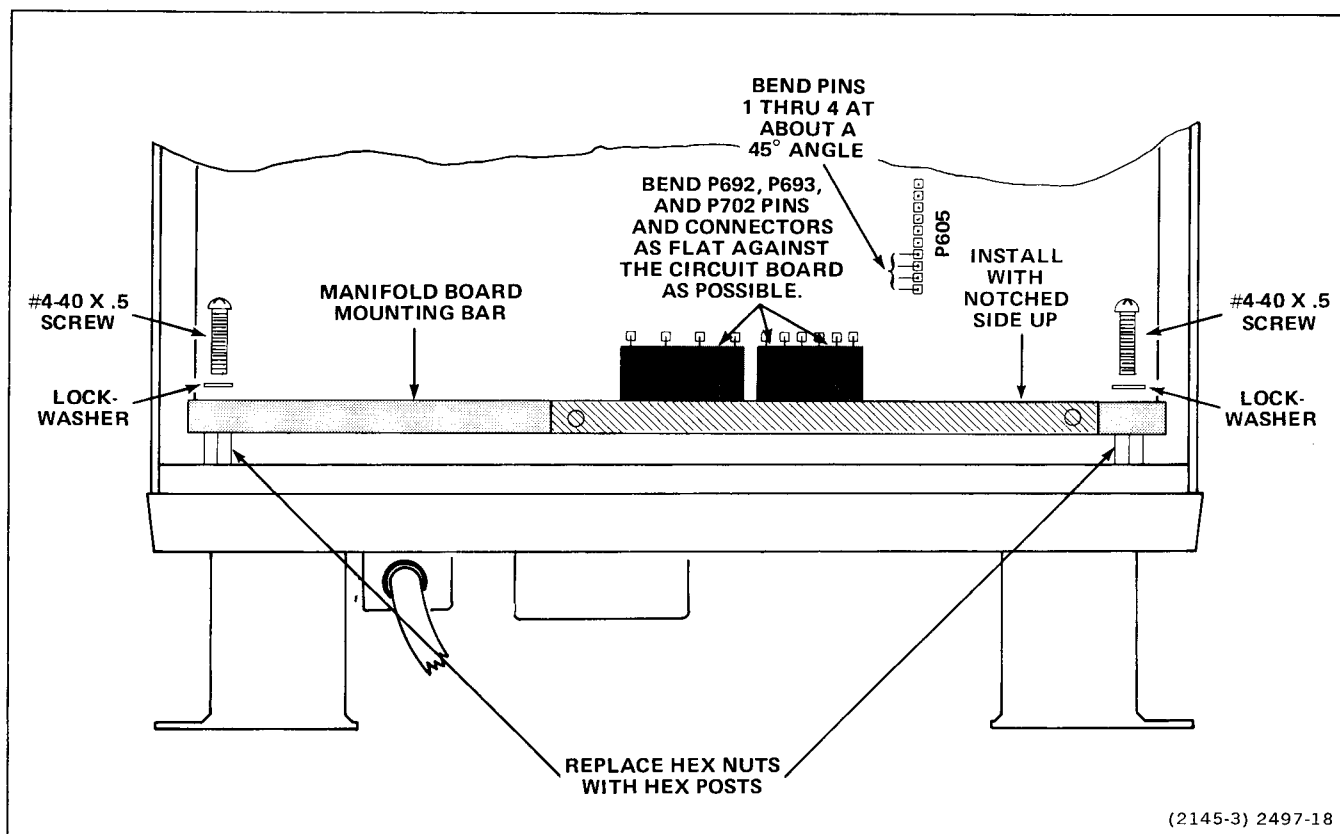

Figure 1-7. Installing Manifold board mounting bar.
8. Bend down pins of P605, P692, P693, and P702 and install Manifold mounting bar as shown in Figure 1-7.